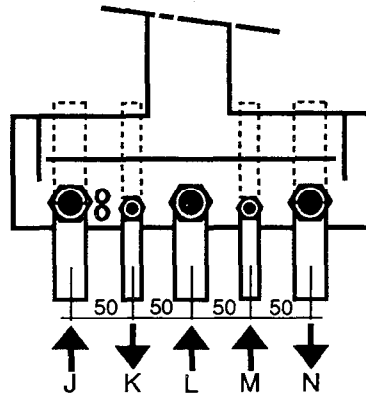

Fig. 22
The safety valve is mounted below the heating return (J) (fig. 22) isolating valve.
- c) Fit support bracket (A).